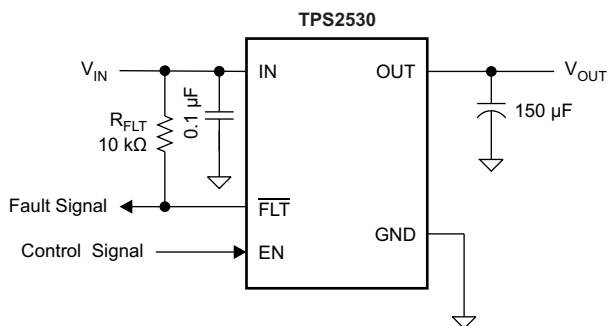

Figure 1. Typical Application
(1) Voltages are with respect to GND unless otherwise noted.
(2) See the Input and Output Capacitance section.
(3) V_{OUT} was surged on a pcb with input and output bypassing per Figure 1 (except input capacitor was a 22 μ F) with no device failures.